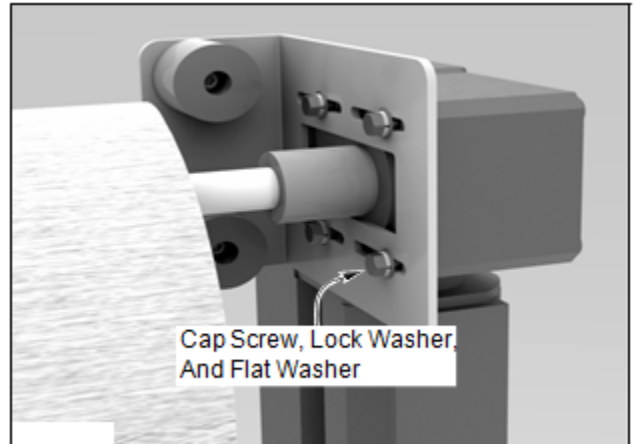

Figure 54
12. Install the four cap screws, lock washers, and flat washers through the isolator bracket and into the new motor/gearbox. (See Figure 54)